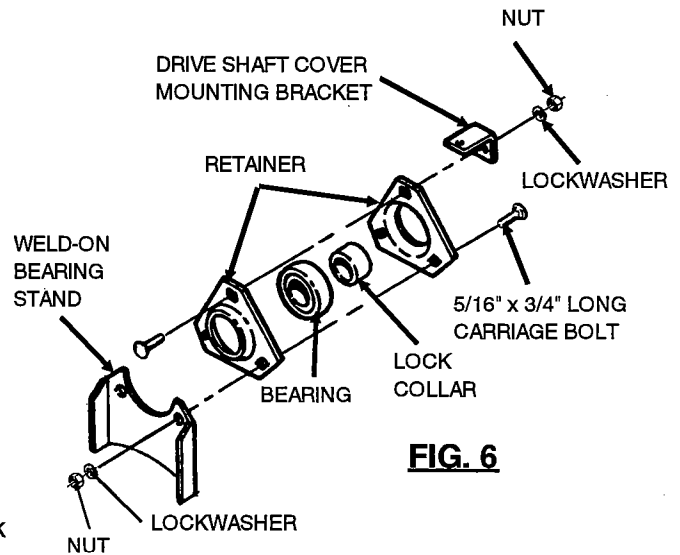

FIG. 6
1. Bolt a bearing to the welded-on bearing stand on 41' models or to the band-on bearing stand for 51' models. Attach each bearing using two retainers and one drive shaft cover mounting bracket. (See Fig. 6 or 7).
1. Bolt bearings to band-on bearing stands. A bearing must also be bolted to a welded-on bearing stand on the lower auger section for 41' models only. Attach each bearing using two retainers and one drive shaft cover mounting bracket. (See Fig. 6 or 7.)